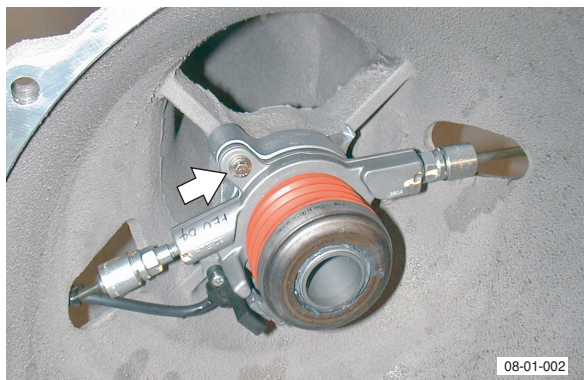

Fig. 2
- Remove bolts (x2) that secure slave cylinder to torque tube (see Fig. 2).